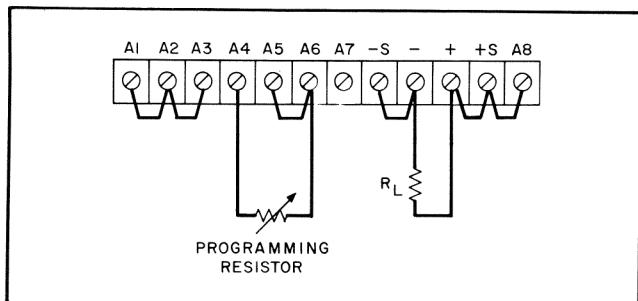

Figure 3-6. Remote Resistance Programming, Constant Current
**3-54 Resistance Programming (Figure 3-6).** In this mode, the output current varies at a rate determined by the programming coefficient as follows: